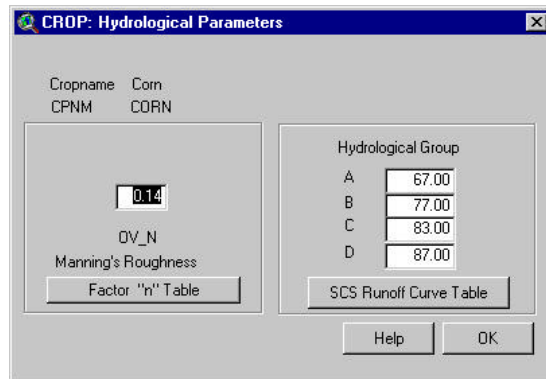

Figure 14.75
- e. The CROP: Hydrological Parameters dialog box is displayed when data for a new urban land type is saved (Figure 14.75)